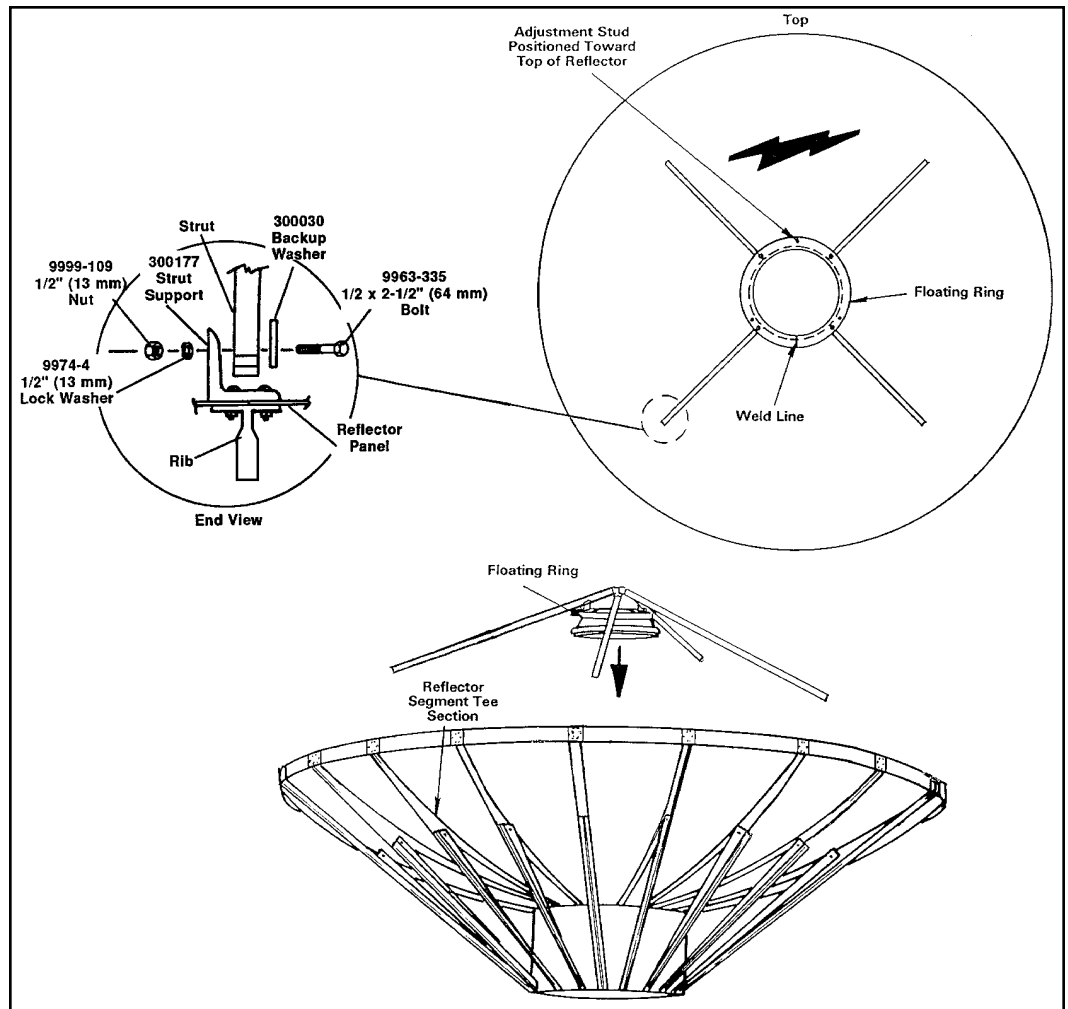

Figure 35
Step 7 Refer to Figure 35. Raise preassembled subreflector subassembly and strut assembly and attach to subreflector supports as shown.